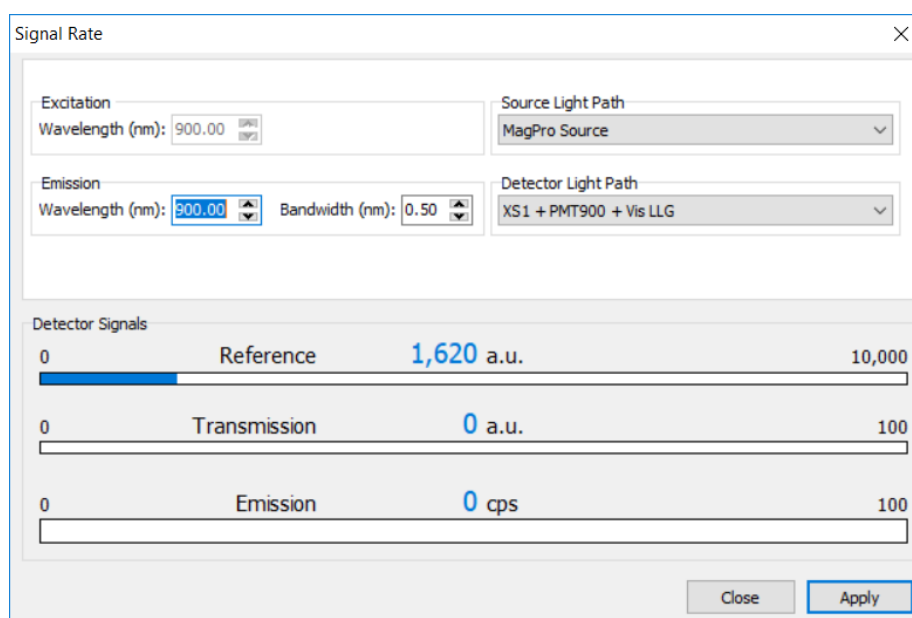

Figure 15: Signal rate screen, MagPro source for CW measurements.
We offer the MoxTek MagPro 12 W cw x-ray source as the solution for steady-state only requirements. With x-ray energies up to 70keV depending on the model, the power supply is compact and easy to integrate within the XS1. The power can be set by fine-tuning the current and voltage levels in the source software (see Figure 15).
- a. Select the appropriate light paths on the signal rate window (Figure 15), i.e. MagPro light path as the excitation source, and the XS1 as the emission path with the correct emission properties (grating, detector and light guide).